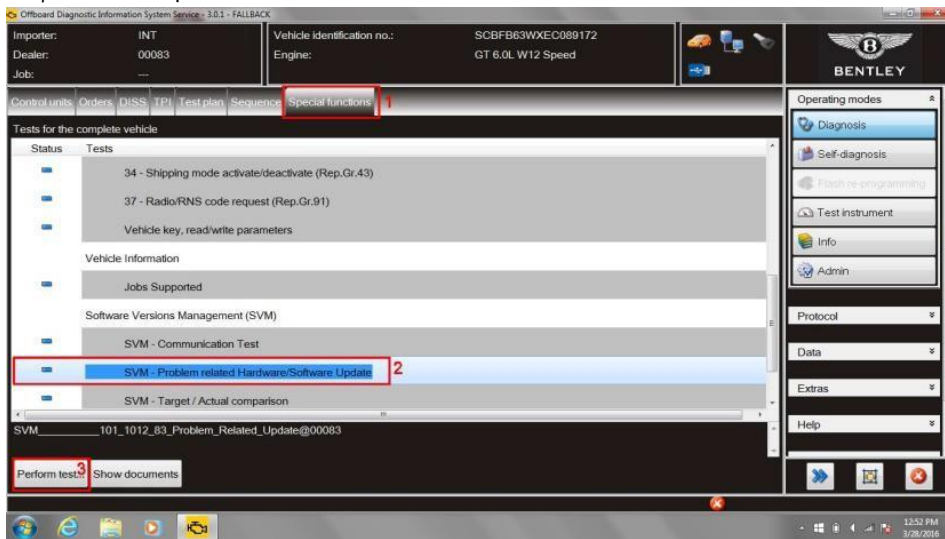

Figure 1
8. Select *Specialfunctions* (1), Select *SVM– Problem related Hardware/Software Update* (2), Select *Perform test* (3) (see Figure 1)